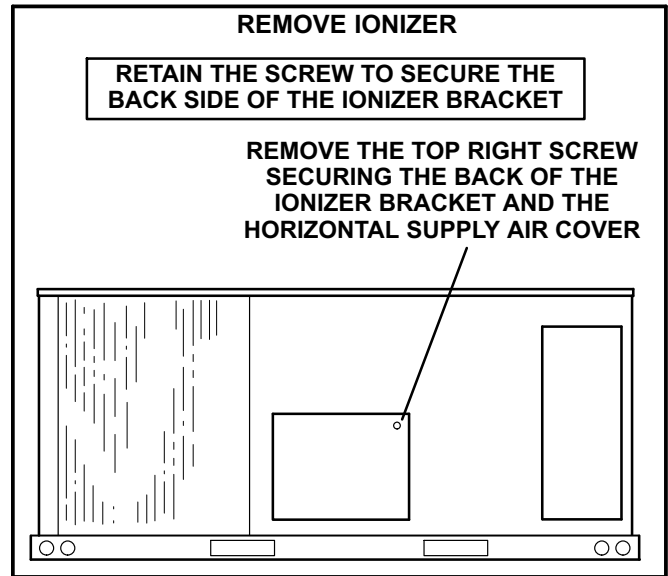

FIGURE 31
- 1- On the back side of the unit, remove the screw securing the back of the ionizer bracket. See figure 31. Retain the screw to secure the back side of the ionizer bracket.